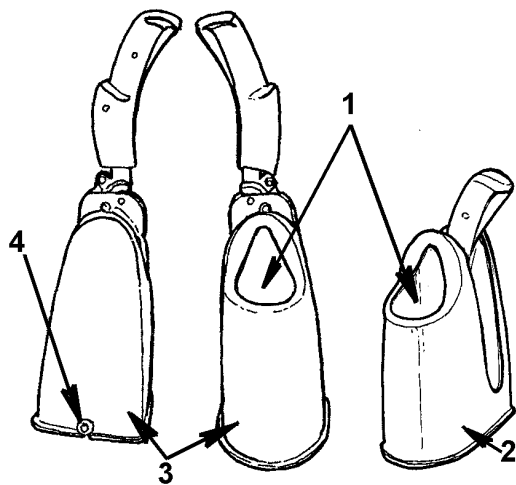
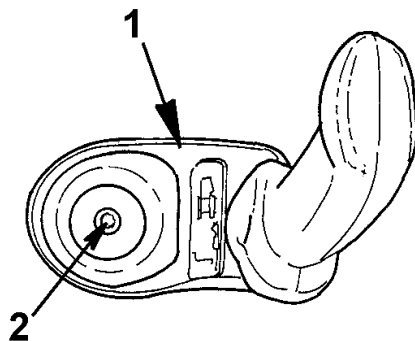

Figure 1 Parking Brake and Cup Holder Shroud
Figure 2 Brake and Shroud, Top View (Tall Brake Assembly Shown)
1. Remove the two parking brake lever shroud mounting screws located at the base and inside the cup holder(Figure 1) and (Figure 2).